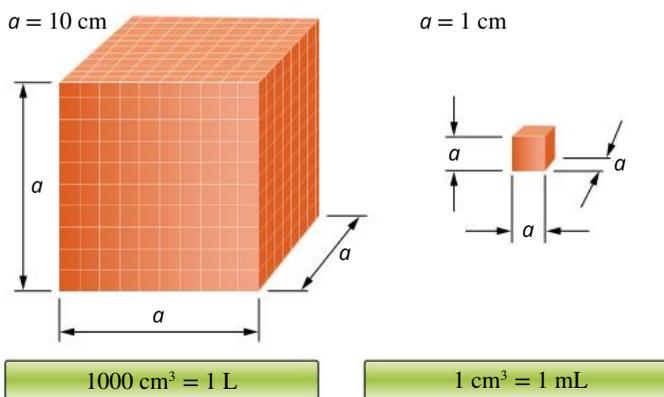

FIGURE 14.1.10 Cubic centimetres, millilitres and litres are the most commonly used units of volume.
There are several different units used for volume, some of which are represented in Figure 14.1.10. The common units are litre (L), millilitre (mL), cubic metre (m^3) and cubic centimetre (cm^3).